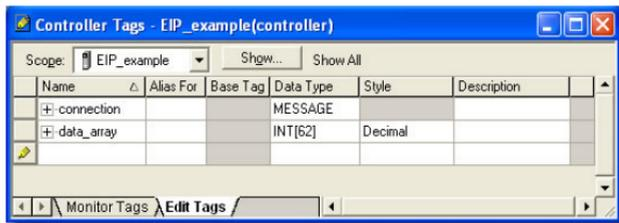

Figure 92: Create New Tags
- The "Controller Tags" window appears. Refer to Figure 92.